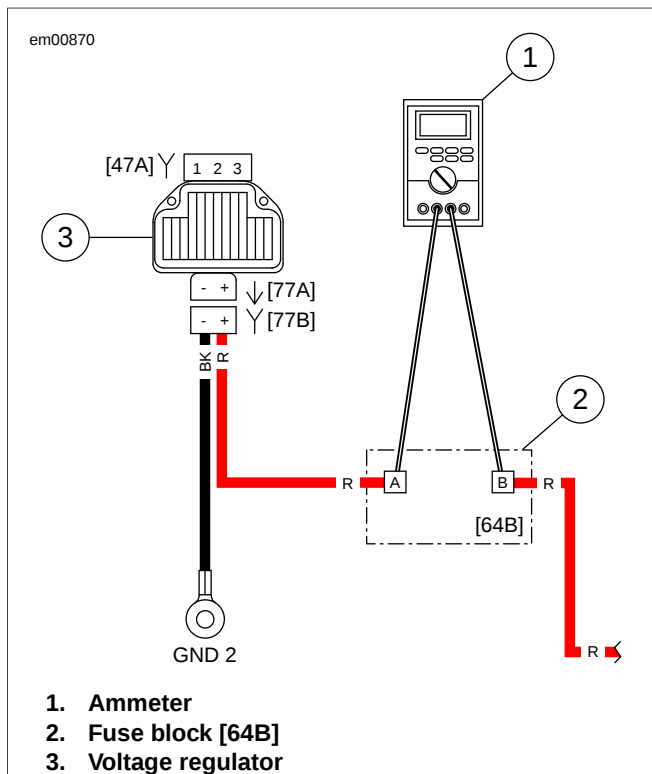

Figure 3-11. Milliampere Draw Test (Ignition Turned to OFF)
4. See Figure 3-11. Using HARNESS CONNECTOR TEST KIT (Part No. HD-41404), connect ammeter to main fuse socket terminals. With this arrangement, you will also pick up any regulator drain.